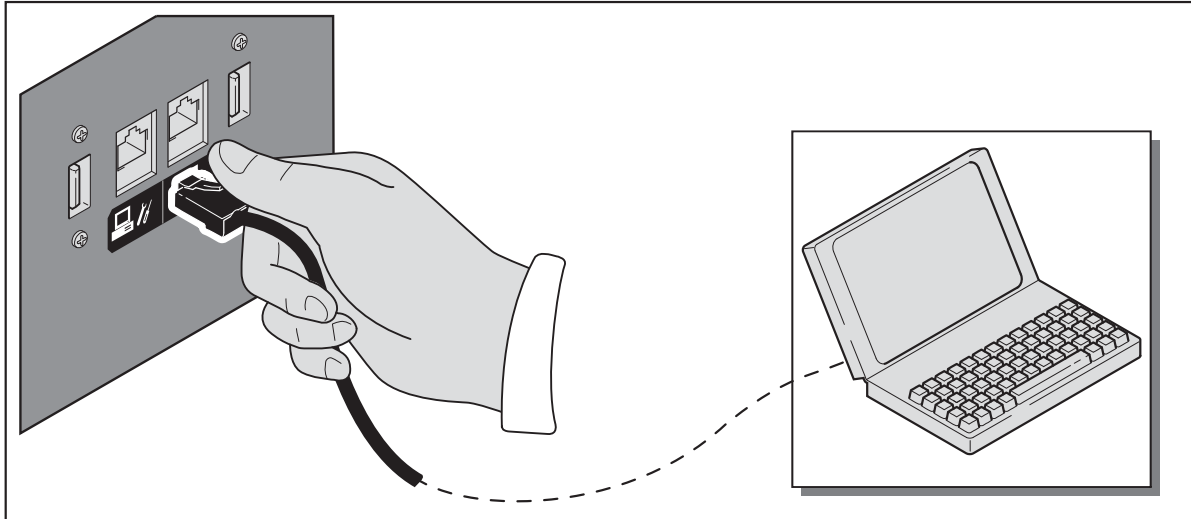

Figure 9-2
- Insert the communication cable connector (RJ11 male) into the connector (RJ11 female) on the rear door, marked with the symbol  (Figure 9-2).